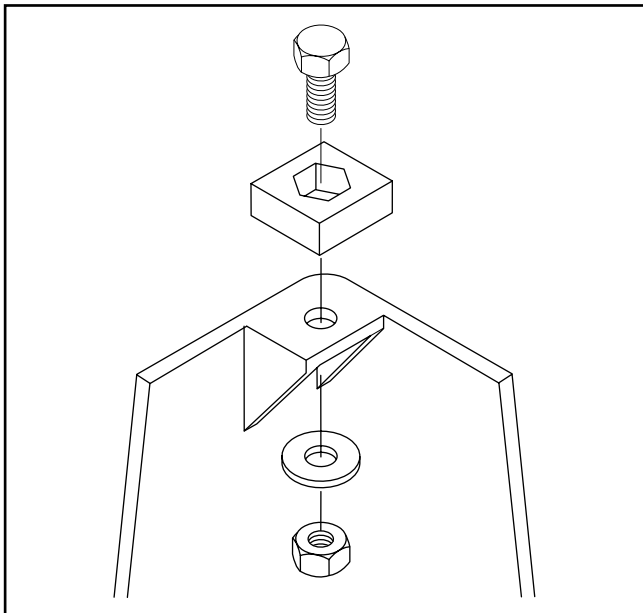

Figure 2. Attaching feet to stand.
1. Fasten the plastic feet to all four legs using the M10 - 1.5 x 25mm Hex Bolts, 10mm Flat washers and M10 - 1.5 Hex Nuts supplied. See **Figure 2**.